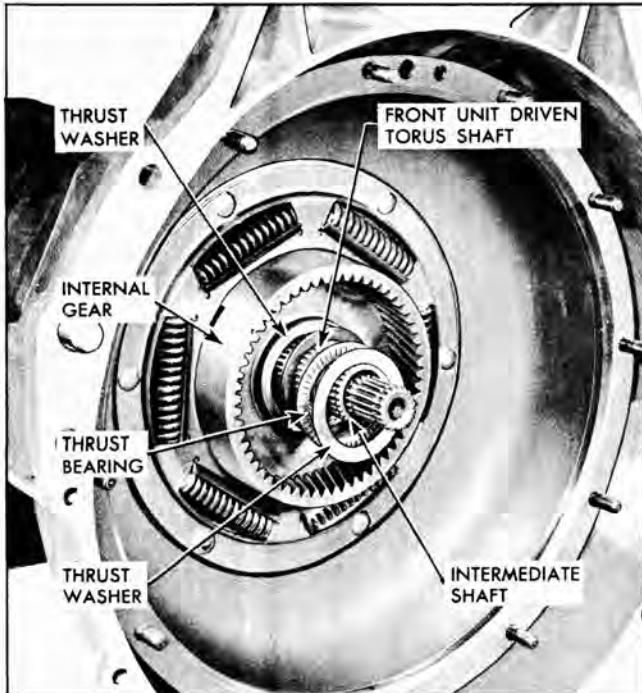

Fig. 174 Installing Front Unit Gear
8. Install front unit internal gear in torus cover making sure lugs of gear engage those of front coupling drive torus (Fig. 174).
9. Install (black) steel thrust washer, needle bearing and second (bright) steel thrust washer in internal gear (Fig. 174).